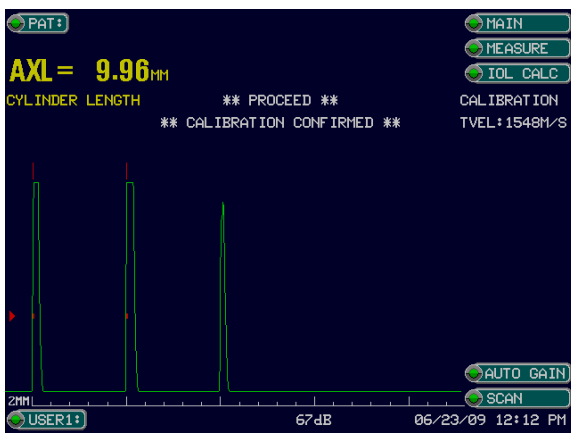

Figure 3-2 Calibration Screen Display
(See Fig. 3-2).
5. Verify that the measurement obtained is 10.00 ± 0.1 mm. If it is not, repeat the calibration procedure until an acceptable measure is obtained (See Figure 3-2)